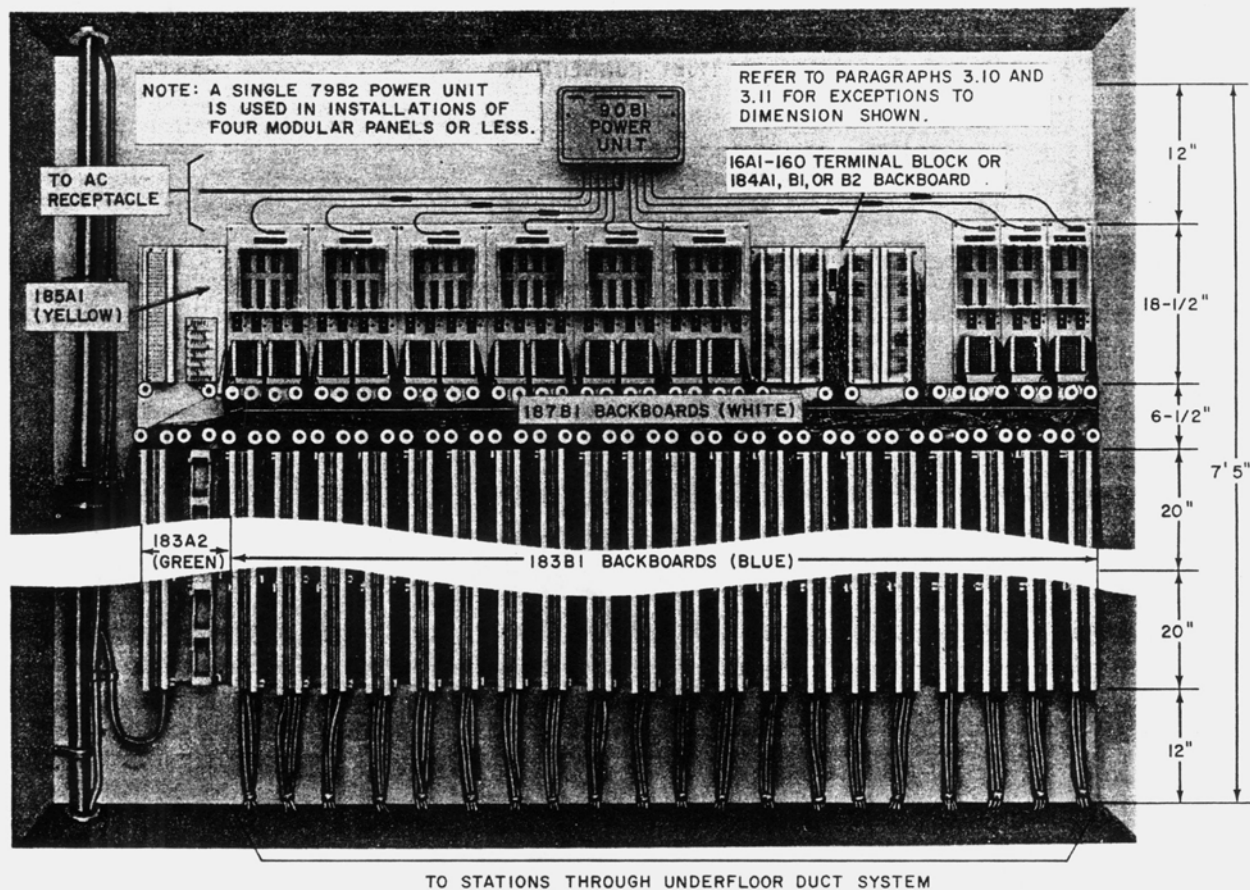

Fig. 8—Centralized Terminal Field, Typical Arrangement of Modular Apparatus
**3.09** In Fig. 8, the 620A-type, 641A, and 642A panels are mixed in any order with 184-type backboards mounted in a single row directly above a WHITE and BLUE backboard field. No space between adjacent panels should be left unless stacking panels (see *Note*) or if covers and end panels are used (paragraph 3.10).
**3.10** A recommended sequence for mounting modular panels, backboards, and power units is as follows (Fig. 8):
**Note:** The 16A1-160 terminal blocks or 184A1, B1 or B2 (RED) backboards may also be intermixed with modular panels as desired to provide station terminations in excess of the panel terminal capacity (Fig. 8 or 9). The 16A1-160 terminal block is the same height as the modular panels and half the width of a 620A-type panel. Two connecting blocks are provided which duplicate the designations and quadrants of a 620A-type panel. If required, the terminal blocks will accept 152A covers and 153A end caps.
(6) The 79B1, 79B2, and 90B1 power units are to be mounted above the cluster of modular panels